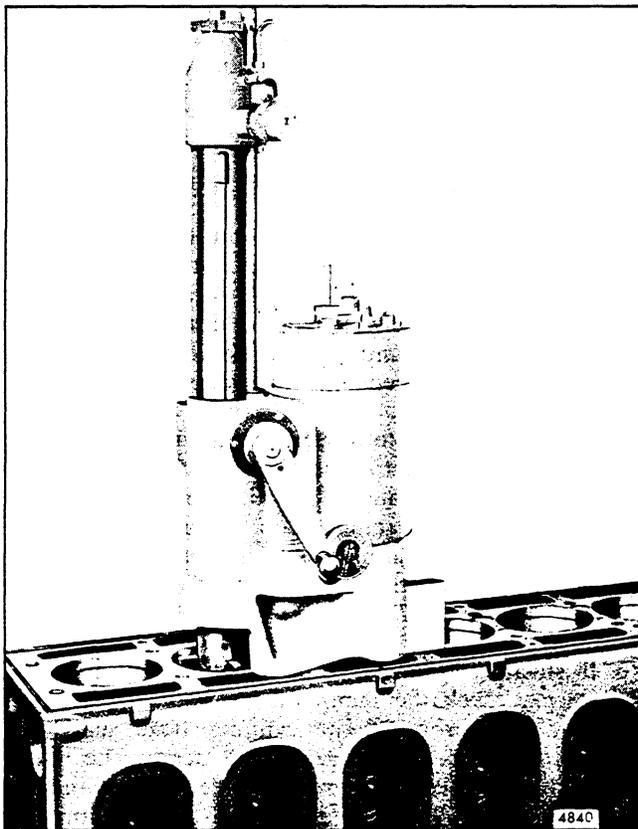

Fig. 15 - Boring Cylinder Block with Portable Boring Bar
- b. A typical commercially available portable boring bar is illustrated in Fig. 15. Instructions on